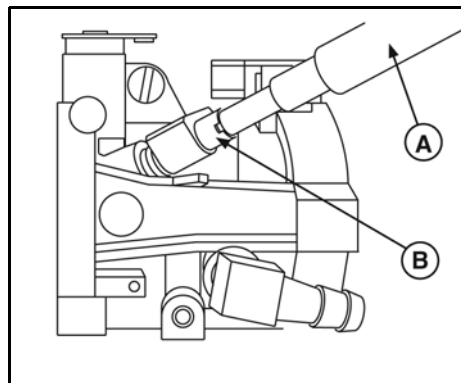

Figure 54
7. After final carburetor adjustment (last step below), use Knockout Pin #19135 (A, Figure 54) to install new limiter cap (B) with flat side facing up.